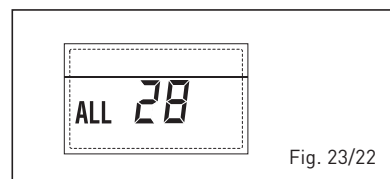

Fig. 23/22
- **ERROR NUMBERS RELATED BOARD "ALL 29" (fig. 23/23)**